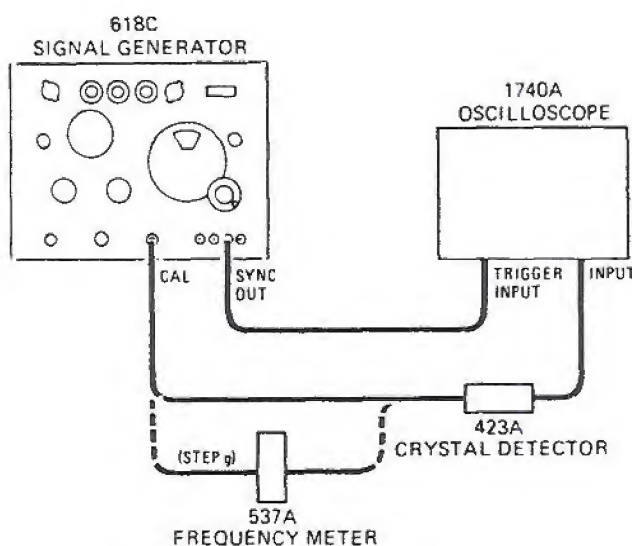
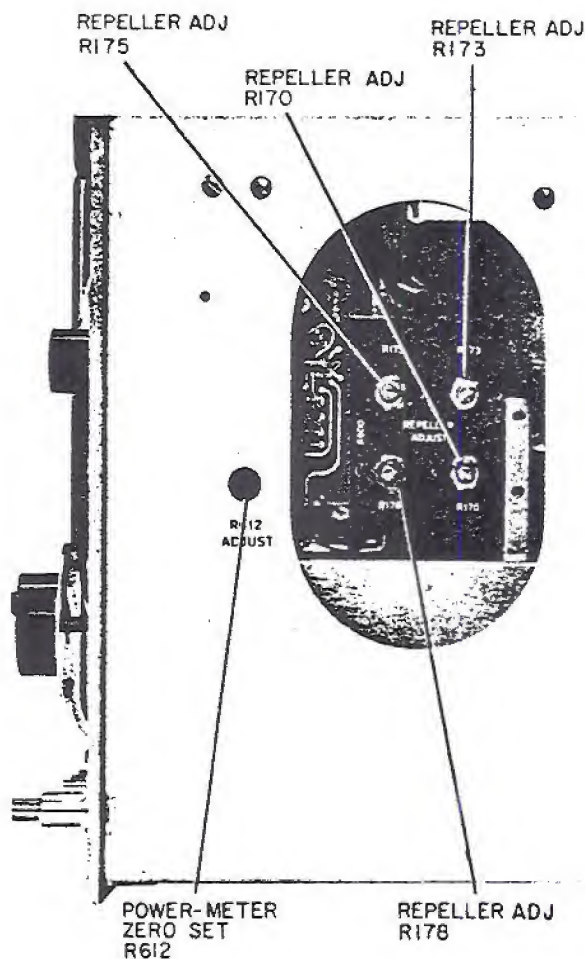
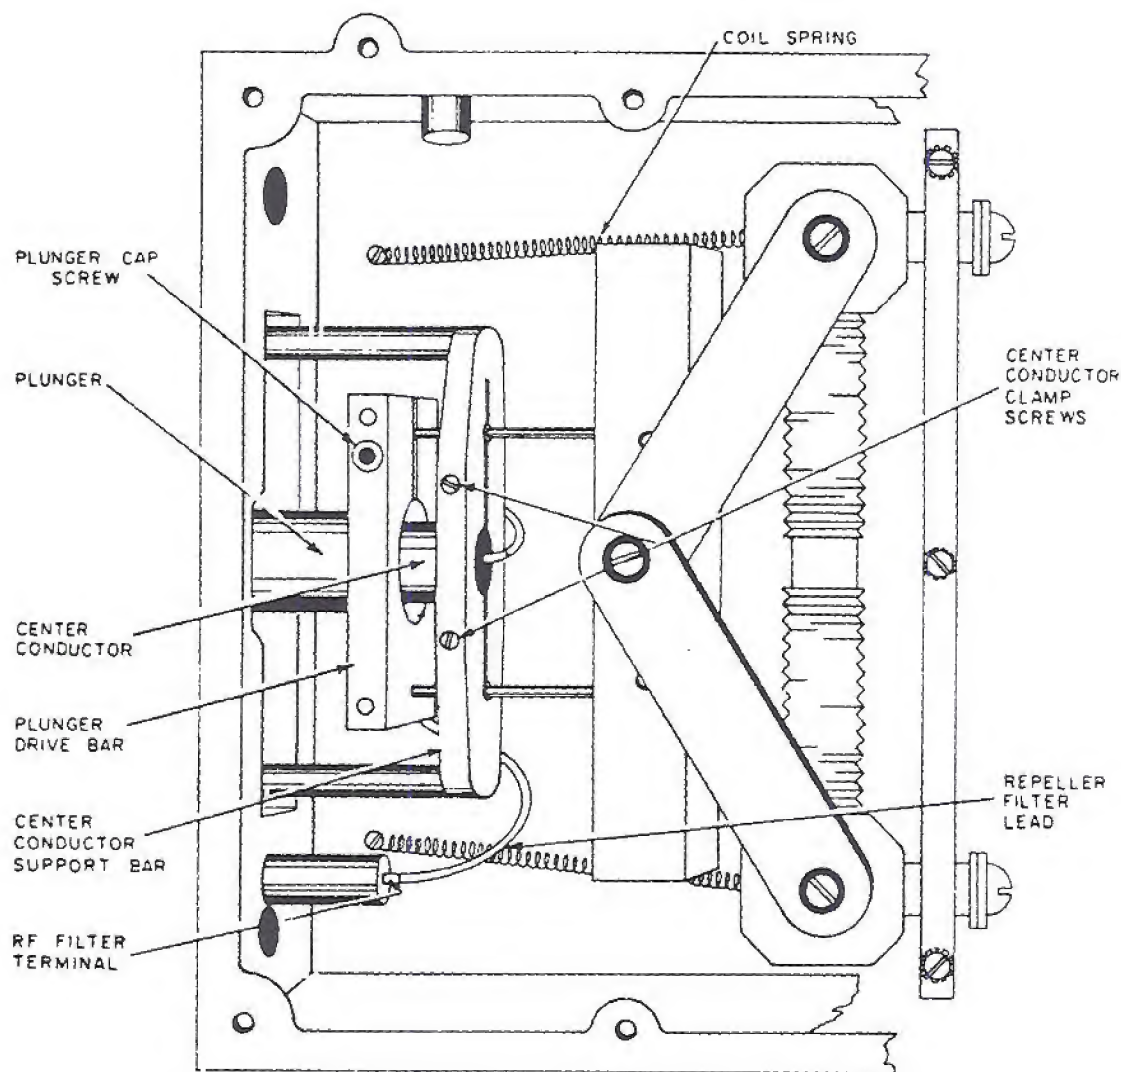

Figure 5-9. Setup for Frequency Dial Calibration (618C)
Figure 5-11. Location of Tracking and Power-Set Meter Adjustments
Figure 5-13. Frequency Drive Mechanism, Cover Plate Removed (620B)
- d. Connect instrument as shown in Figure 5-9.
- g. At this point it is advisable to check the dial calibration at the high end stop. This check avoids possible retracking adjustments when the dial calibration is adjusted later. To conduct the check, tune frequency control to high end stop and place wavemeter in circuit as shown in Figure 5-9. Wavemeter should indicate 7.650 GHz. When the wavemeter is tuned to the actual frequency of the generator a slight decrease in the peak level of the pulse appears on the scale. If this frequency is more than 25 MHz away from 7.650 GHz perform step d in paragraph 5-34.
- h. Remove wavemeter and reconnect output cable as shown in Figure 5-9. Tune the frequency control toward 5 GHz, adjusting R170 (Figure 5-11) for best pulse shape between 7.6 and 5 GHz.
- i. Tune the frequency control between 5 and 4.2 GHz; adjust R173 and/or R178 (Figure 5-11) for optimum pulse shape.
- e. Adjust POWER SET control to obtain up-scale indication on the power set meter. If necessary, adjust potentiometer R170 (Figure 5-11) to obtain proper meter indication. Recheck klystron beam current (25 mA maximum).
n. Measure Signal Generator output frequency with Frequency Meter. If the measured frequency is below 11.1 GHz, remove bottom plate from frequency drive mechanism and perform (1) through (4) following; if not, perform (5) through (9) following:
- (1) Loosen plunger cap screw (Figure 5-13).
- (2) Adjust Frequency Meter to 11.1 GHz.
- (3) Gently tap rear of plunger until Frequency Meter dip is centered on mode pattern.
- (4) Tighten plunger cap screw and replace bottom plate.
- (5) Set Frequency Meter to 11.1 GHz.
- (6) Adjust frequency dial until Frequency Meter pattern is centered on the mode pattern.
- (7) Loosen plunger cap screw.
- (8) Turn frequency dial to high frequency stop while holding plunger stationary.
- (9) Tighten plunger cap screw and replace bottom plate.
p. Tune Signal Generator across entire band and center repeller mode pattern with repeller tracking potentiometer R170, R173, R175, and R178 (Figure 5-9). Figure 5-12 (A and C) shows two typical mode patterns. Figure 5-12A shows a symmetrical mode pattern that is properly centered by the correct repeller voltage; Figure 5-12B shows the same pattern set off-center by incorrect setting of repeller voltage. Adjust potentiometer R170 and R178 (Figure 5-11) to obtain correct repeller voltage tracking between 11 GHz and the frequency just above the point where the microswitch is actuated (approximately 8.7 to 9 GHz). Adjust potentiometers R173 and R175 (Figure 5-11) to obtain correct repeller voltage tracking between the frequency just below the point where the microswitch is actuated (approximately 8.6 GHz) and 7 GHz.
h. Refer to Figure 5-13 and loosen the cap screw holding the plunger in the plunger-drive bar.
a. Remove instrument cover for access to R612 (see Figure 5-11).
c. Adjust POWER SET until meter pointer is about 3/8 inch to the right of zero (0).